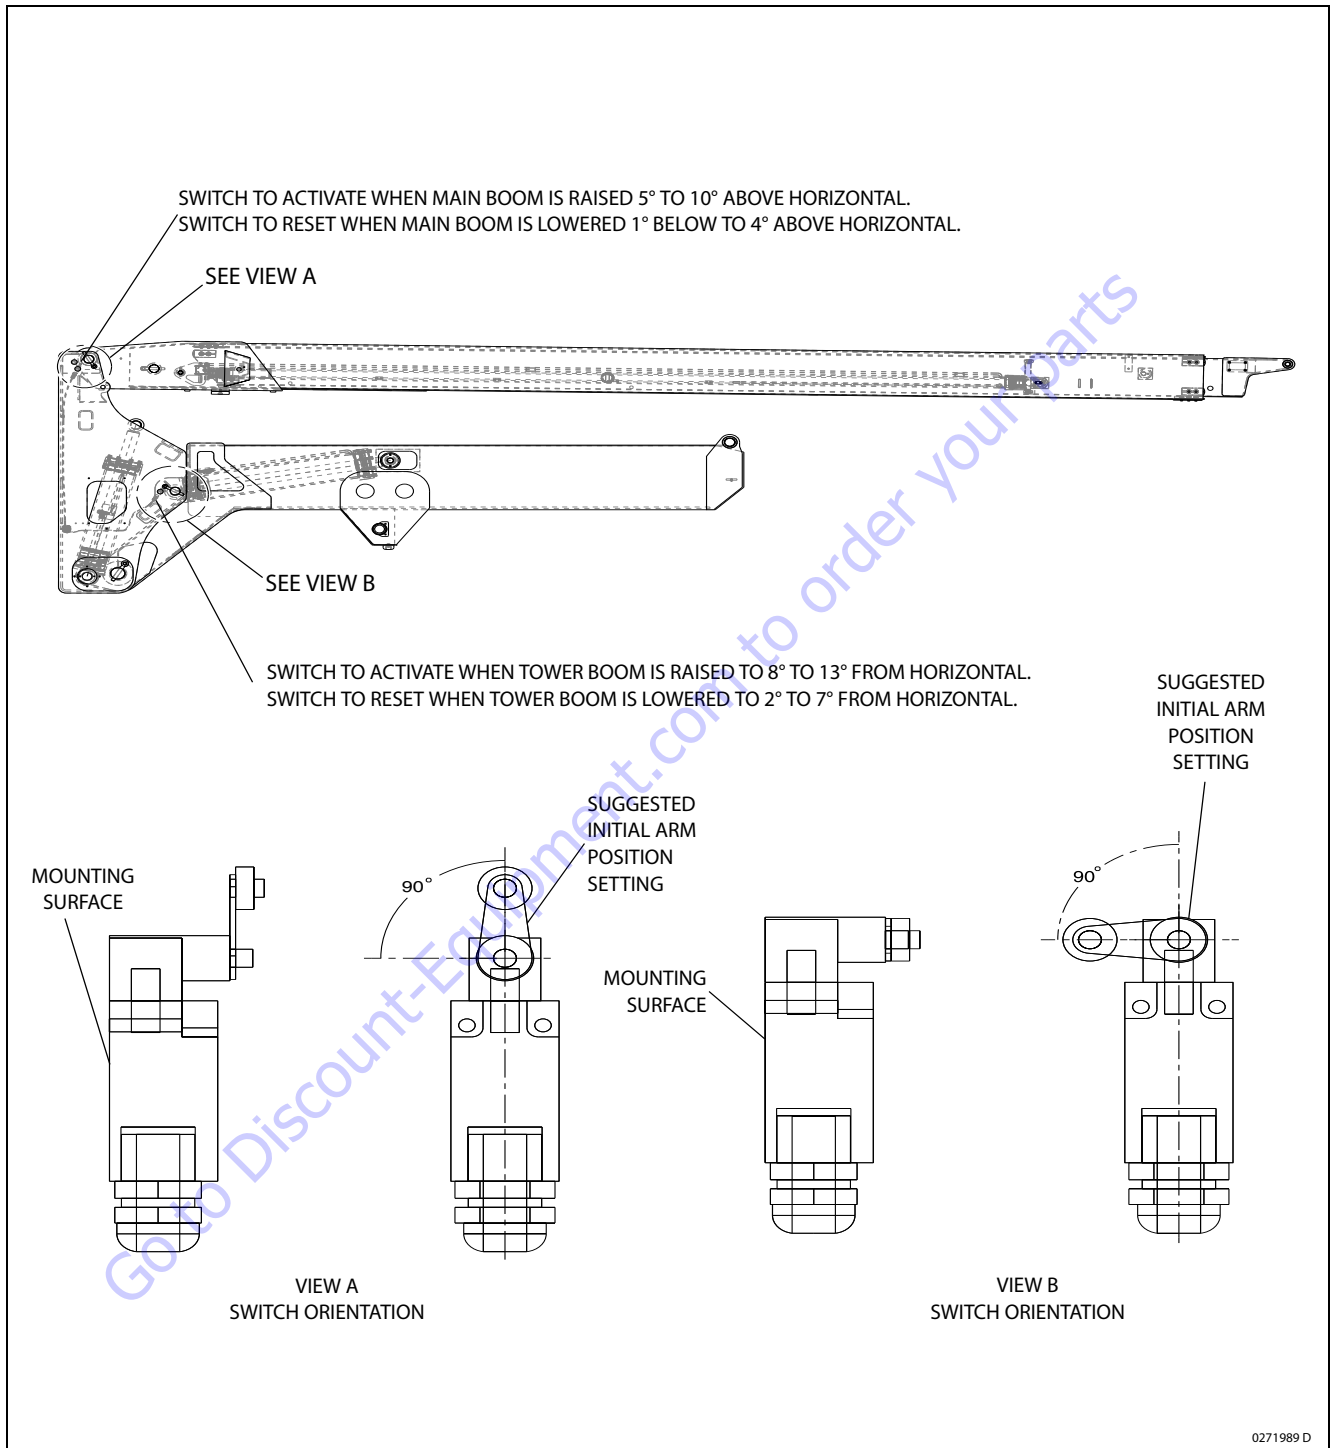
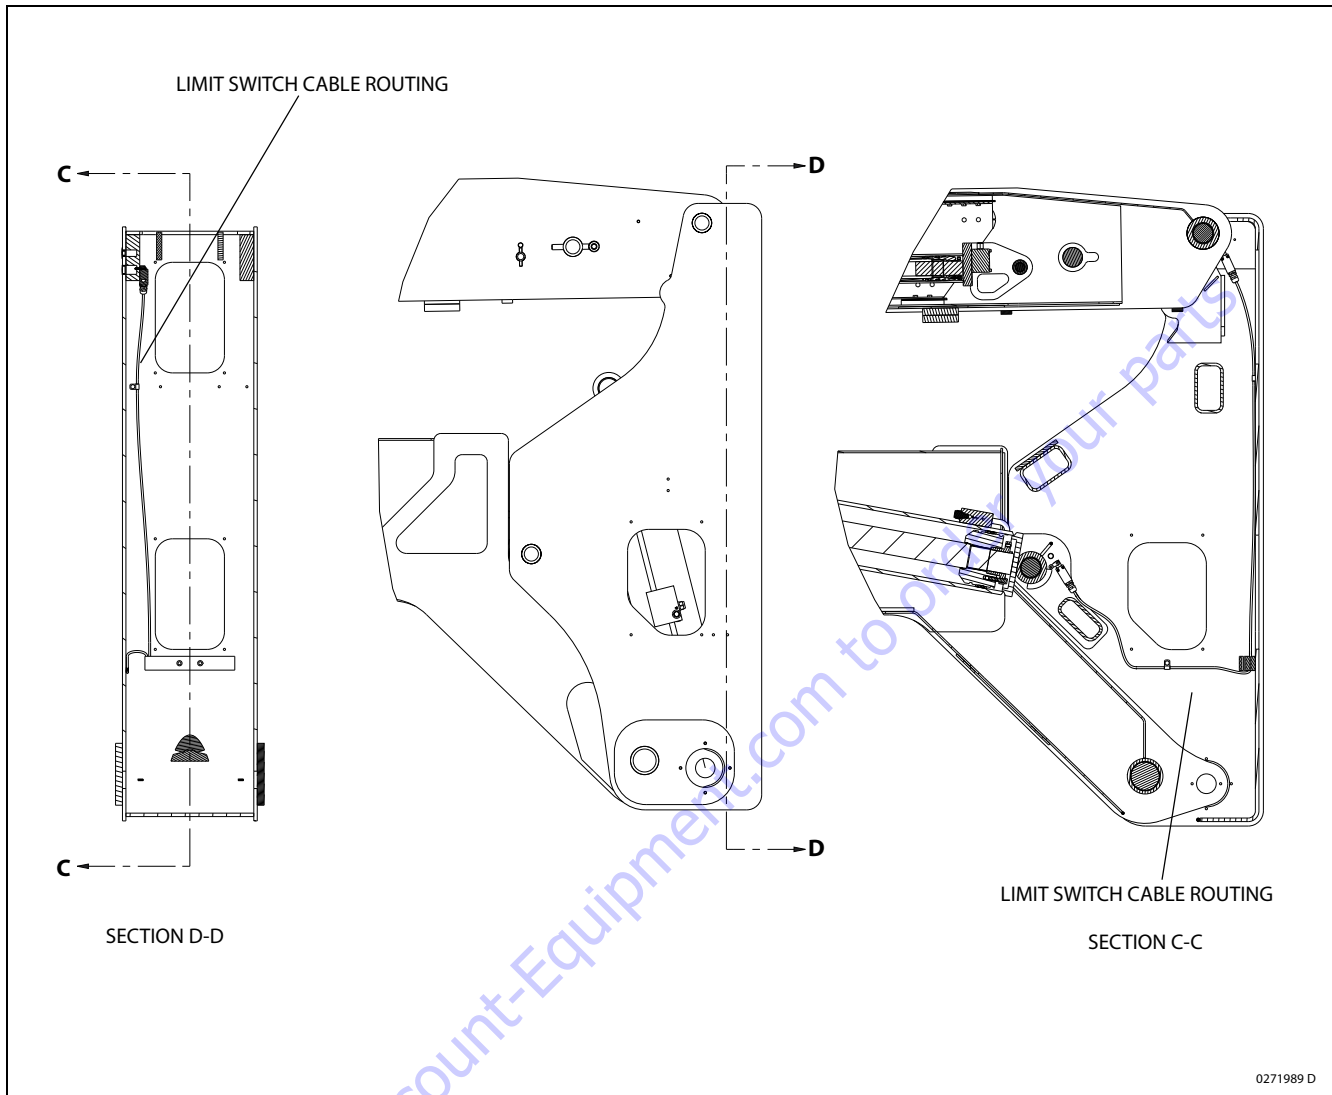

Figure 4-18. Boom Valve and Limit Switches Location (Sheet 1 of 2)
Figure 4-19. Boom Valve and Limit Switches Location (Sheet 2 of 2)
3. Lower main boom until limit switch resets. This should be 1 degree above to 4 degrees below horizontal. See Figure 4-18. for adjustments.
3. Lower the tower boom until the limit switch resets. This should be 2 to 7 degrees below where the switch was activated. See Figure 4-18. and Figure 4-19. for adjustments.